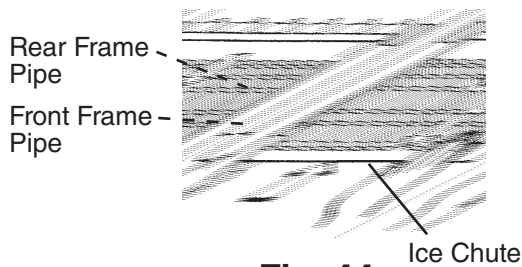

Fig. 44
13) Position and lock the ice chute onto the front and rear frame pipes by pushing the ice chute down until it clicks onto both frame pipes. See Fig. 44.